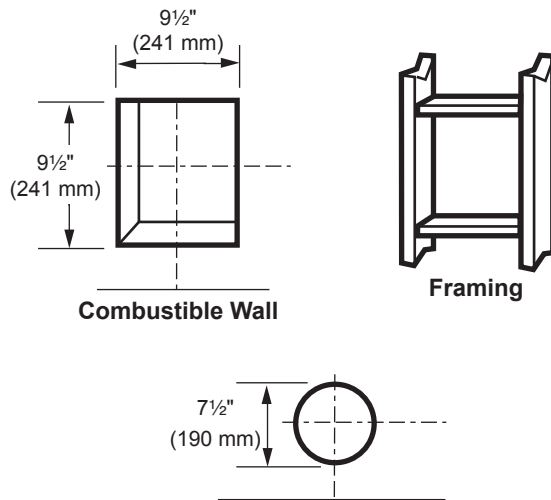

Figure 26 - Exterior Wall Framing Dimensions for 4 x 6^{5/8}" or 4" x 7" Venting
- Combustible Exterior Walls:** Cut a 9½"H x 9½"W (241 x 241 mm) square hole through the exterior wall frame. *Figure 26*
2. The center of the hole should align with the center line of the horizontal rigid vent pipe end. Allow 1/4" minimum rise per foot. *Figure 26*